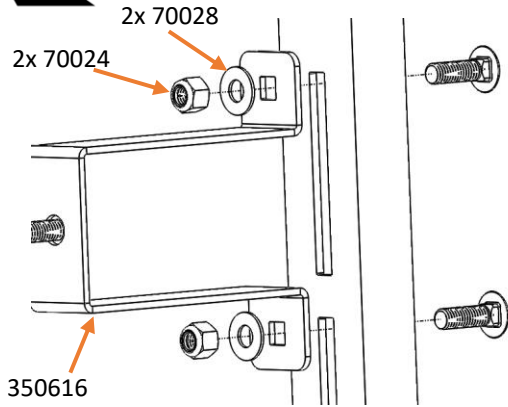

Figure 9: Tire Mounting Bracket Installation
- 24. Loosely fasten the Tire Mounting Bracket to the slotted channel using the 3/8" carriage head bolts, washer, and nuts to mount. Reference Figure 9.